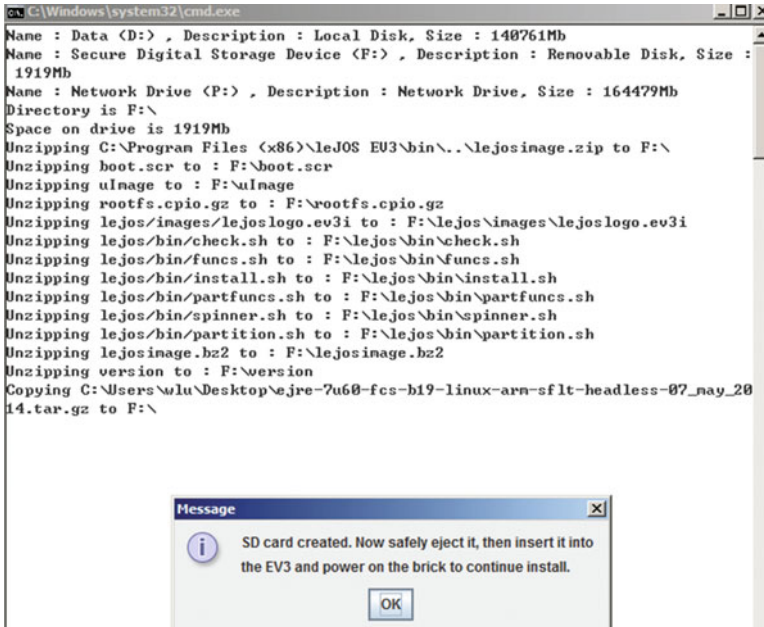

Figure 1-17. Installing the leJOS firmware into the SD card
- Choose the right SD Card drive, click the link to *Download the EV3 Oracle JRE*, and select the corresponding .gz file. Then click the *Create* button and you will see that the EV3 firmware is burned into the SD card, as shown in Figure 1-17.